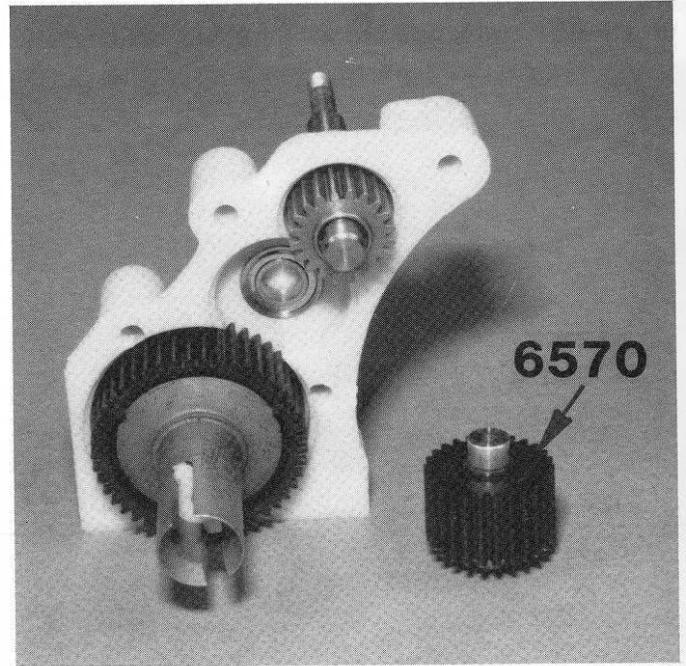

Fig. 63
□ **Fig. 63** Now carefully slip the #6570 idler gear into the center bearing.